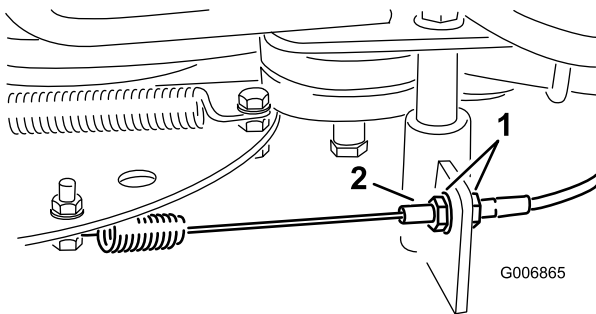

Figure 26
4. Loosen the blade brake cable nuts until the brake cable conduit slides (Figure 26).